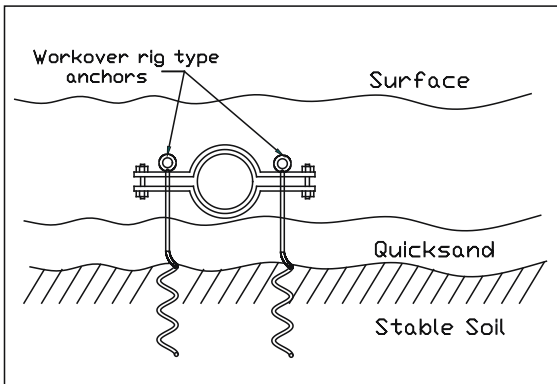

Fig. 2
- B. Special anchors can be designed to prevent pipe from floating or raising. These anchors are designed depending on the conditions. Many are 360° saddles around the pipe that are welded to work over rig type screw anchors (Figure 2). The spacing between anchors is the same as the support span for above ground supports. (Contact factory for spacing.)